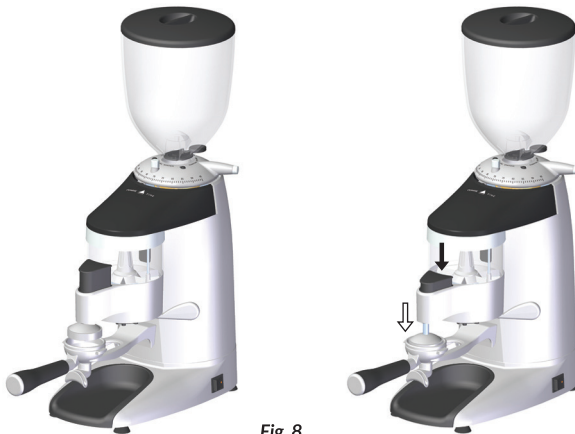

Fig. 8
When using the telescopic coffee press option, place the portafilter on the fork (9) and push the coffee tamper downwards (Fig. 8).